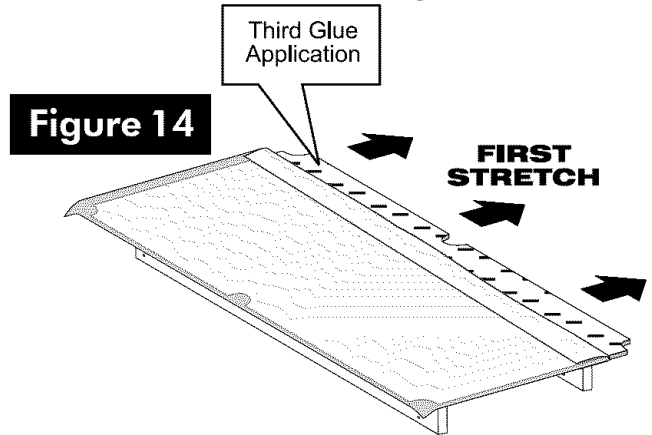

Figure 14
28. Fold cloth away from other side to expose slate/slatron for your third glue application. (See figure 14). Apply cement to this side in the same manner. Allow cement to become tacky, wait at least one minute.